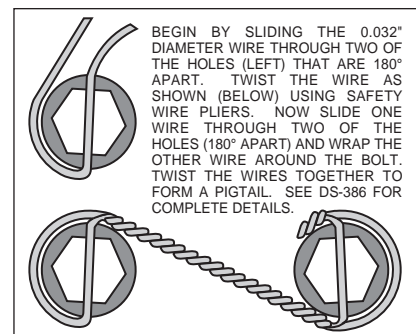

Figure 5. Safety Wire Diagram
- With the larger I.D. side of the rotor (4) facing away from the hat (3), bolt rotor (4) to hat (3) through the backside of the rotor using washers (5) and bolts (6). Using an alternating sequence, apply red *Loctite*® 271 to the threads and torque bolts to 155 in-lb. For an added measure of security, the bolts may be safety wired using standard 0.032 inch diameter stainless steel safety wire as shown in Figure 5. Please refer to Wilwood's data sheet DS-386 (available at [www.wilwood.com/Pdf/DataSheets/ds386.pdf](http://www.wilwood.com/Pdf/DataSheets/ds386.pdf)) for complete safety wire installation instructions.